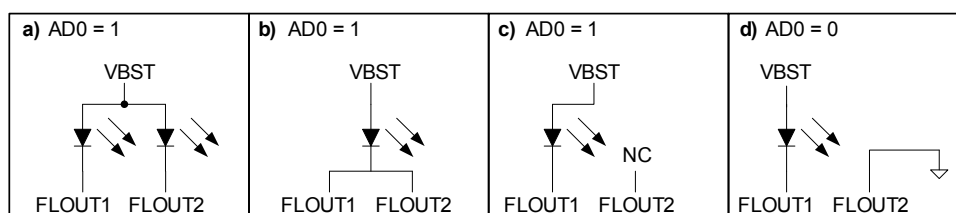

Figure 2-1. Typical Connection Diagram
1. Power delivered to the speaker from the 0.1- Ω load side terminal (refer to Fig. 2-1).